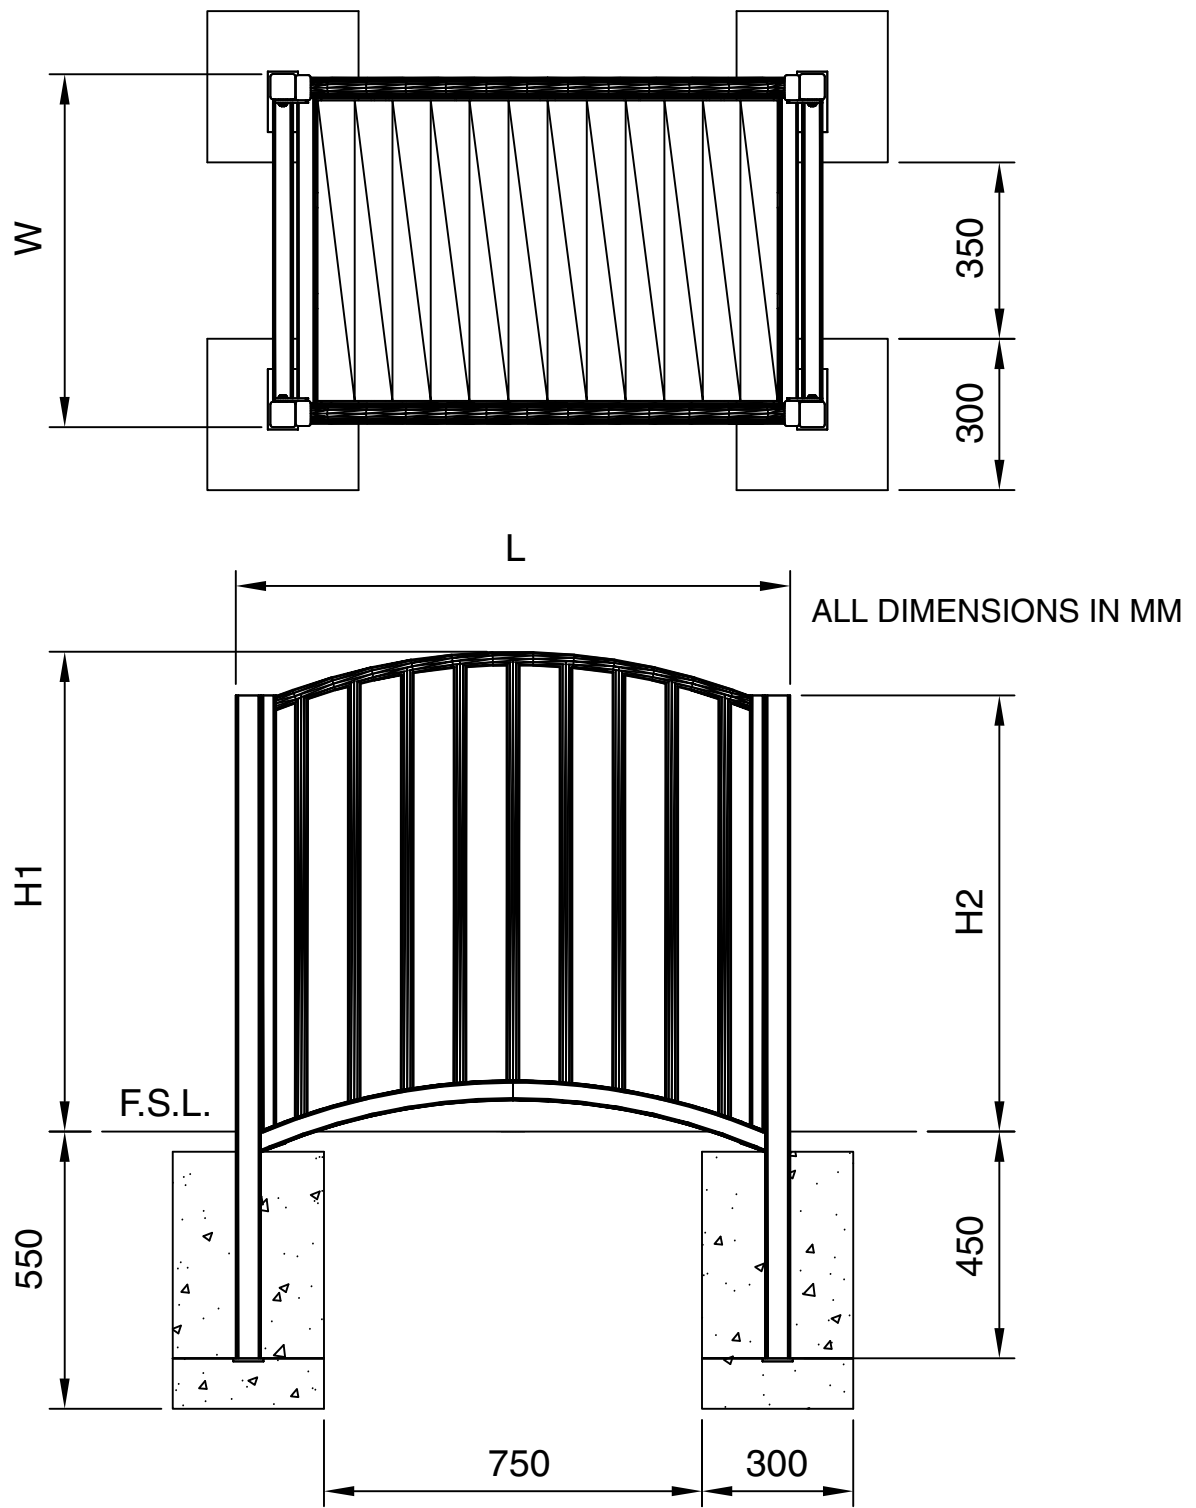

FIG.1
- iv) In all fixing positions on steel work that have not been utilised, the protective plug should be removed and the permanent black plastic protective plug (item 5) inserted & knocked home with a soft hammer.
- vii) Check that the completed assembly is plumb and square and at correct height. The finished surface level should be flush with the top of the cross beam on the Bridge Mounting Frame. (FIG.1)